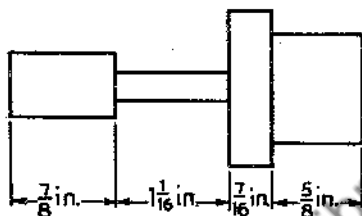

Fig. 3
(2) Allowing  $\frac{3}{4}$  in. on the ends of each pin for facing and  $\frac{3}{16}$  in. for cutting-off, calculate the length of bar required to make 7 pins as shown in fig. 3.